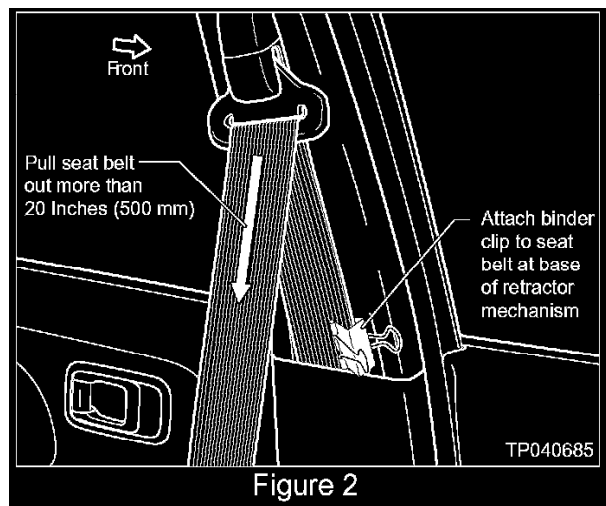

Figure 2
3. Remove both rear tire/wheel assemblies and securely install two (2) nuts to each brake drum (opposite studs) to hold brake drums on axle (Figure 2).
1. Pull the affected seat belt more than 20 inches (500 mm) out of the B pillar seat belt retractor mechanism (see Figure 2).
2. Attach a binder clip (or similar clamping device) to the seat belt at the base of the retractor mechanism to allow for slack in the seat belt (see Figure 2).